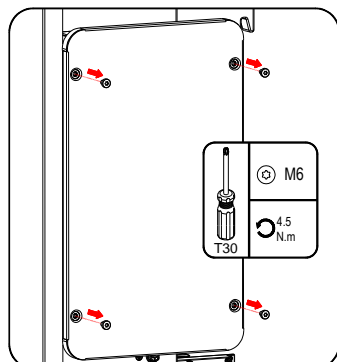

FIG 5-4 Remove the Upper Cover of the Junction Box
Step 2: Remove the upper cover of the junction box as shown in FIG 5-4.